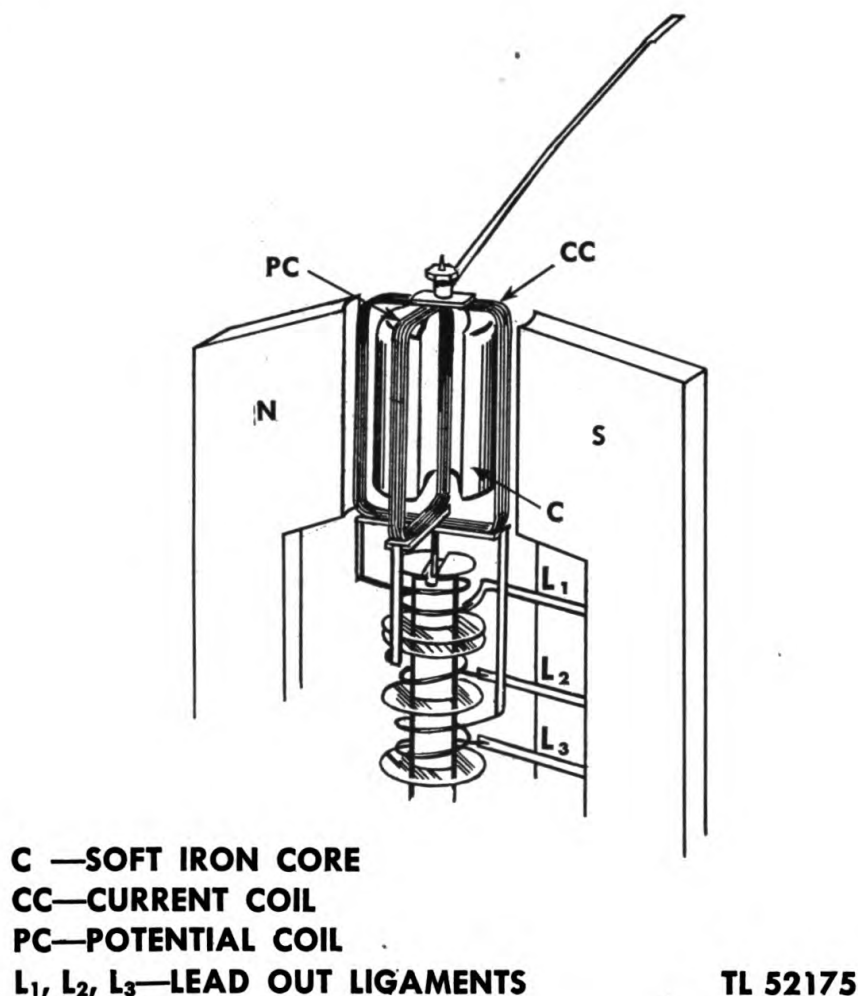

Figure 8. Ohmmeter movement of Test Set I-48-B.
a. Figure 8 illustrates the ohmmeter movement of Test Set I-48-B.
b. The indicating instrument, a true ohmmeter, consists of two coils, PC and CC (fig. 8), designed and connected to oppose each other in a definite ratio. The indicating pointer is rigidly fixed to the coil assembly so that when the assembly is connected through a proper resistance network to the generator and test terminals, it will indicate the true resistance of the apparatus under test. The